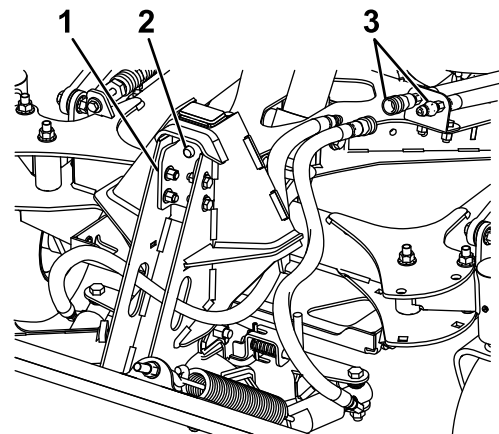

Figure 8
- Raise the A-frame until the coupler pin locks into place (Figure 8).
**Note:** Ensure that the coupler pin also inserts through the hole in the pin channel on the plow coupler (Figure 8).
- Connect the angle-cylinder hydraulic hoses to the quick disconnects on the machine (Figure 8).